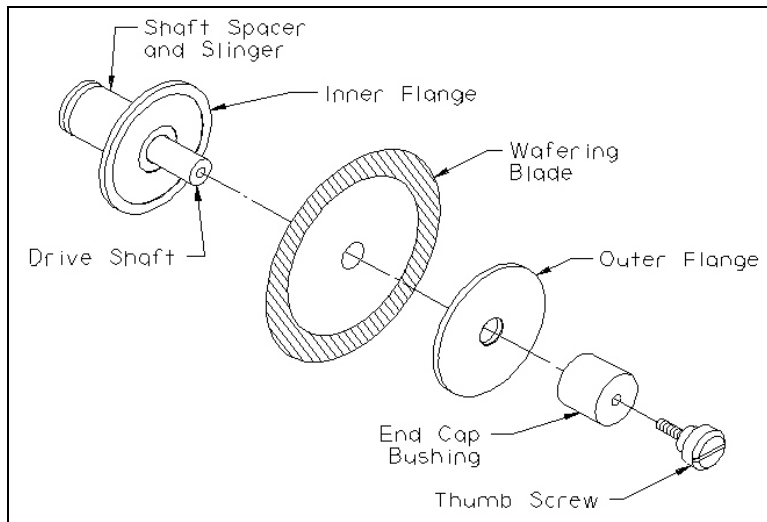

Figure 1: Blade Installation Diagram
2. Install the blade on the drive shaft against the inner flange (see Figure 1).